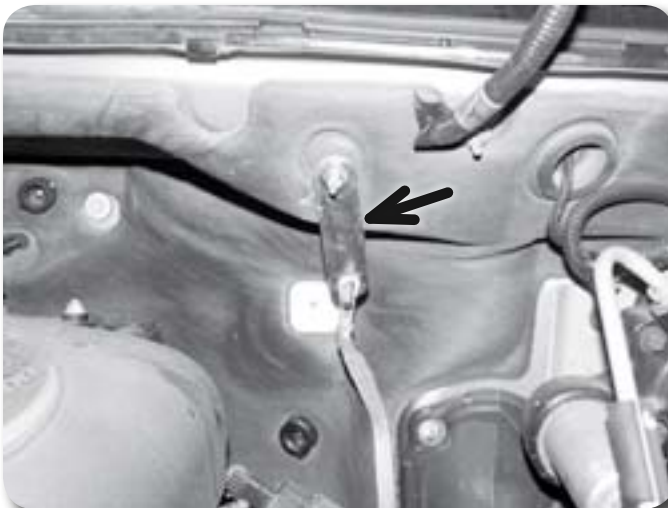

Figure 19
35. Check the firewall ground cable for slack. It may be long enough to reattach with the factory nut. If more slack is required, install the provided 3" extension bracket (with 1/4" threaded stud) with the factory nut. Attach the cable to the relocation bracket with a 1/4" nut and 1/4" USS washer. Torque the factory and 1/4" nuts to 15 ft-lbs **Figure 19**.